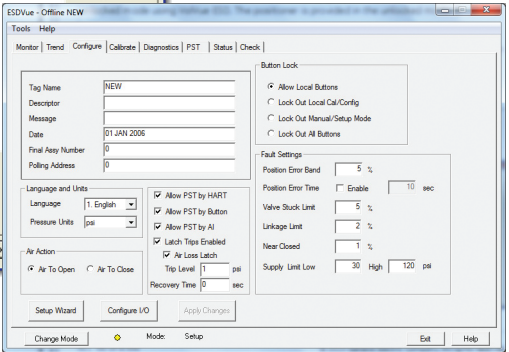

Figure 20 - Checking Pushbutton Lock Using ValVue ESD
1. Select the installed ESD positioner from the list of Connected Devices as shown in Figure 20 and click **Connect**.